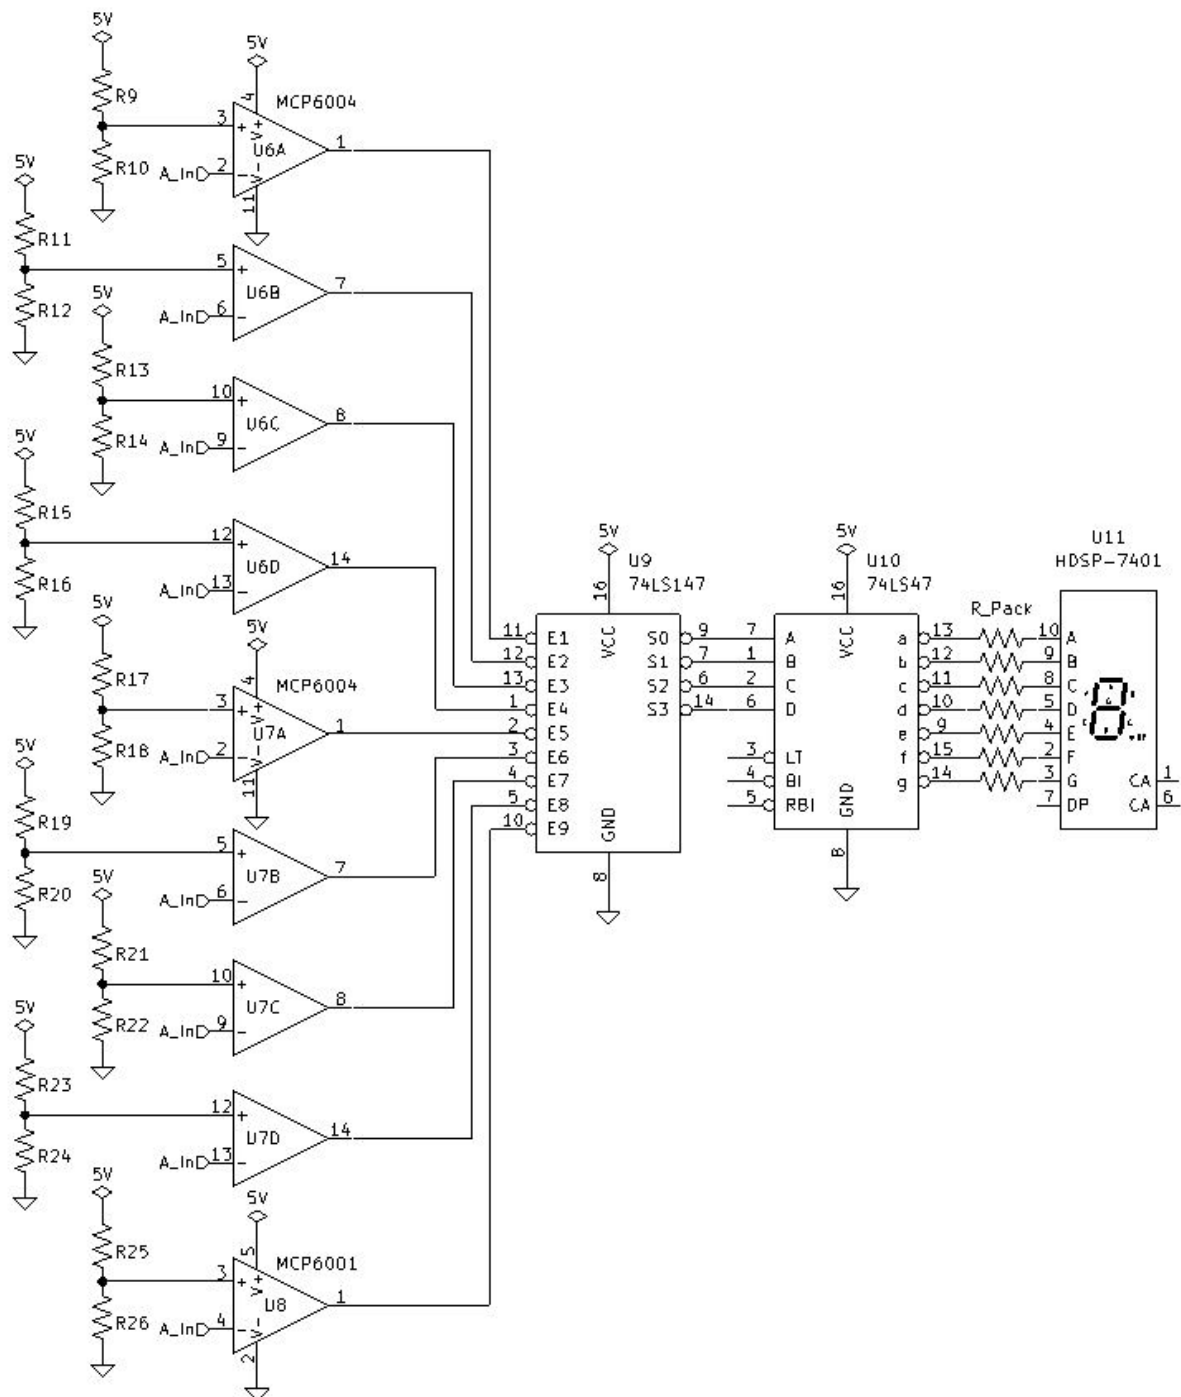

Figure 8.2: ADC Engineering Department Prototype Circuit.
1. The Engineering Department has sent you an ADC prototype circuit that they are working on. The ADC circuit is not working as expected. The Engineering Department needs you to analyze the circuit and make sure all the connections are correct. See Figure 8.2 *ADC Engineering Department Prototype Circuit* on page 77.